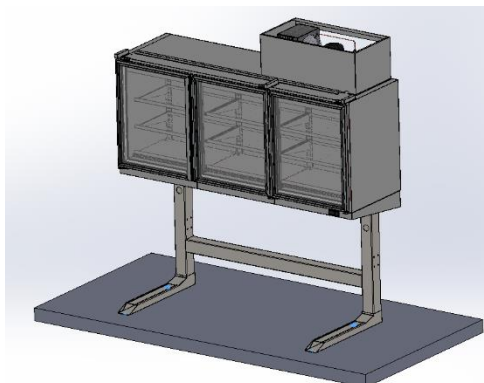

Fig. 6.1.5. The position of the stand for operating the showcase.
3. Raise the stand to the upper position, fix with screws and bolts (Fig. 6.1.5).